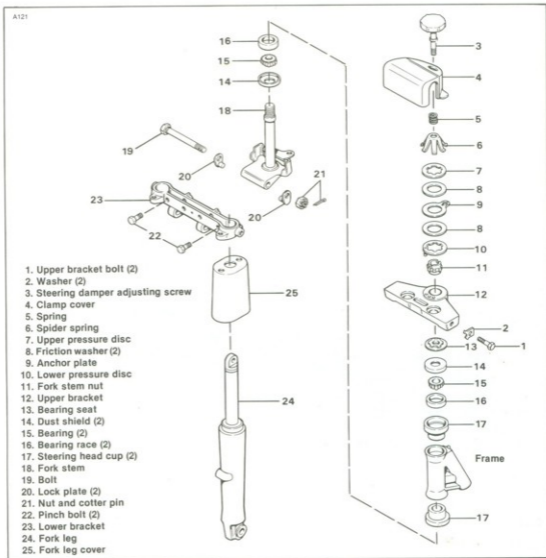

Figure 2-72. Adjustable Fork Stem and Bracket
Adjustable Forks. See Figure 2-72. Remove the upper bracket bolts (1) and washers (2). Loosen the lower bracket pinch bolts (22) and pull the fork sides from the brackets.
Adjustable Forks. See Figure 2-72. Install the upper bracket bolts (1) and washers (2). Tighten the bolts to 22-26 ft-lbs torque.
ADJUSTABLE FORK STEM AND BRACKET (Figure 2-72)